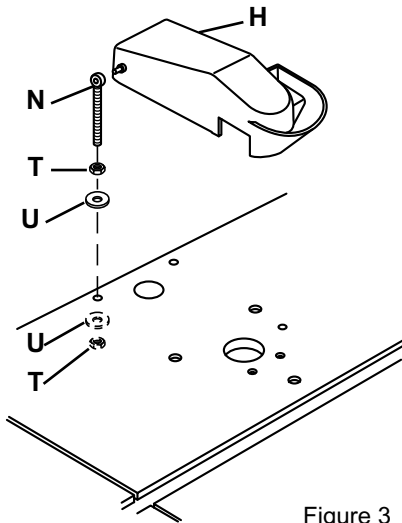

Figure 3
- Place eyebolt/nut assemblies onto hinge of safety shield (**D**). See Figure 3.
- Secure safety shield assembly in place with 2 washers (**U**) and 2 hex nuts (**T**). See Figure 3.